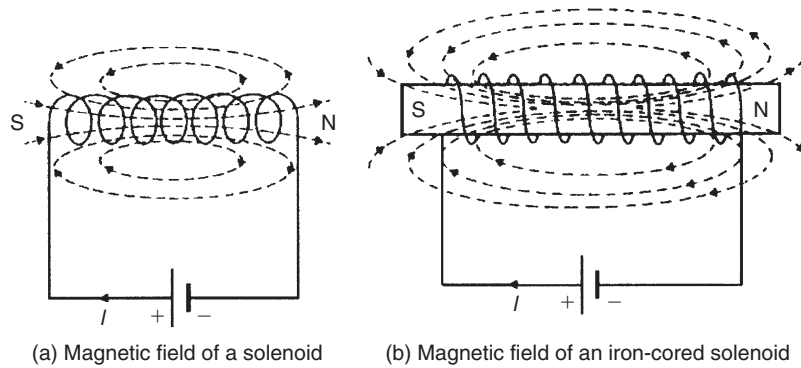

Figure 8.4
A magnetic field set up by a long coil, or **solenoid**, is shown in Fig. 8.4(a) and is seen to be similar to that of
a bar magnet. If the solenoid is wound on an iron bar, as shown in Fig. 8.4(b), an even stronger magnetic field is produced, the iron becoming magnetized and behaving like a permanent magnet. The direction of the magnetic field produced by the current  $I$  in the solenoid may be found by either of two methods, i.e. the screw rule or the grip rule.
- The screw rule** states that if a normal right-hand thread screw is placed along the axis of the solenoid and is screwed in the direction of the current it moves in the direction of the magnetic field **inside** the solenoid. The direction of the magnetic field **inside** the solenoid is from south to north. Thus in Figs 8.4(a) and (b) the north pole is to the right.